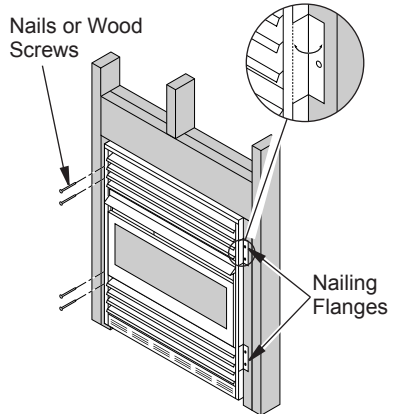

Figure 12 - Attaching Fireplace to Wall Studs
7. Bend four nailing flanges on outer casing with pliers (see Figure 12).